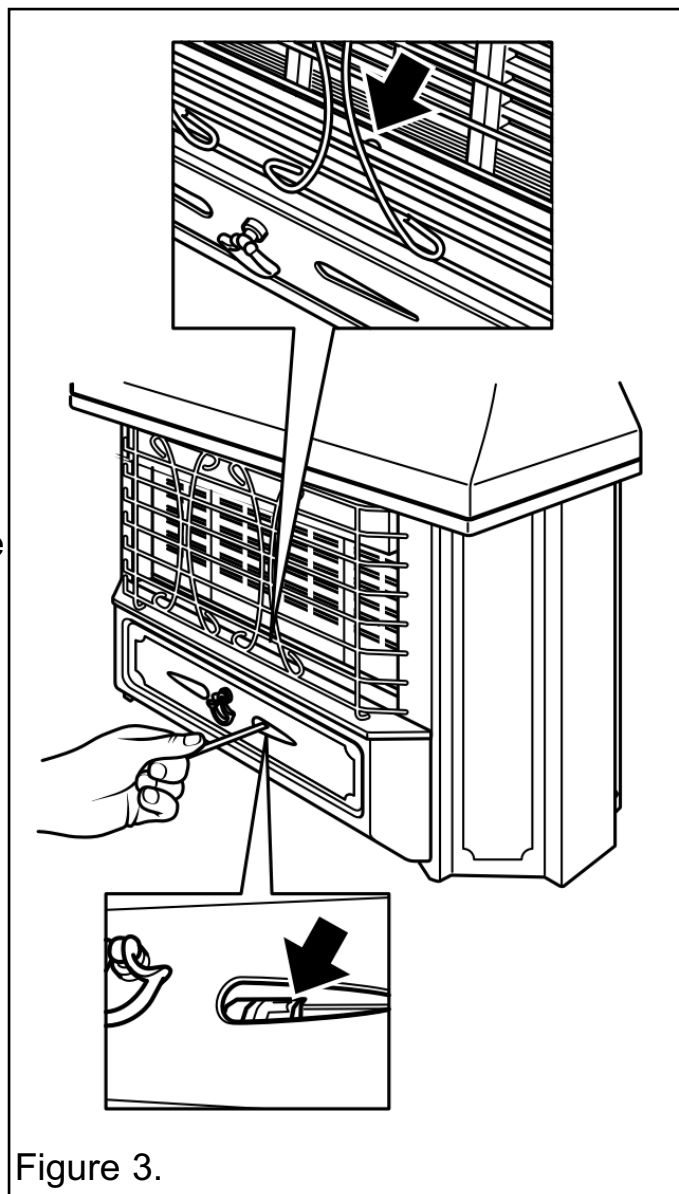

Figure 3.
1. Slide the control button to the ignition / low (↓ L) position. In this position, the electronic ignition system should cause a series of sparks that should light the pilot. The pilot flame can be seen through a hole immediately in front of the centre radiants (See the upper section of figure 3). Within four seconds of the pilot igniting, the two centre radiants should light.
(See figure 3).
In the unlikely event of failure of the ignition spark, the pilot can be lit by a taper or long spill. Slide the control knob to the ignition / low position (↙ L). While keeping the knob depressed, light the pilot by inserting a long match or taper into the opening shown in figure 3 (Second opening on the right). When the pilot is alight, keep the knob depressed for about ten seconds to allow the flame sensing probe to warm up before setting to your preferred heat level. For your own convenience, have the heater serviced as soon as possible.